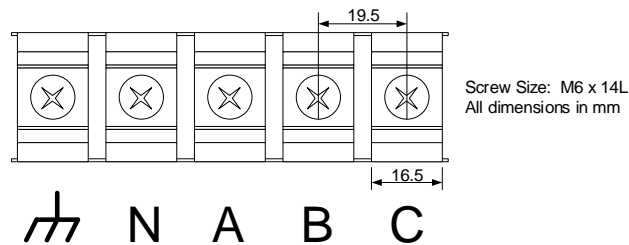

Figure 13 - AC Terminal Block Connections
4. Connect the ground cable as well as the three utility phase cables to the AC terminal block as shown in Figure 13. The neutral connection (N) is provisional and must be left unconnected. Connections should be tightened to a specified torque of 2.8 Nm (25 in-lb) +/- 5%.